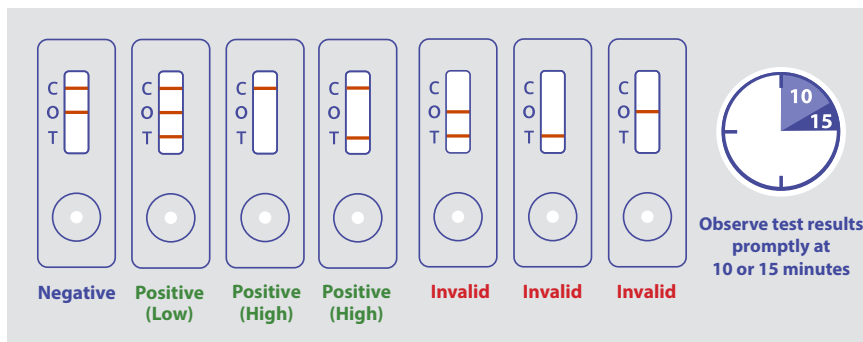

Figure 3. Interpreting Test Outcomes
**9.1.** A negative result is indicated by the development of a strong control line (C) and overload (O) line. An example of a negative result is depicted in **Figure 3** labeled **"Negative"**.
**9.2.** Positive test results at lower analyte concentrations will result in the appearance of the test line (T) in addition to the overload line (O) and/or the control line (C). At higher analyte concentrations, the test line (T) and/or the overload line (O) will disappear, leaving only the appearance of the control line (C). Thus at high analyte concentrations, the disappearance of the overload line (O) indicates that the sample is positive for the analyte regardless of the appearance of the test line (T). Examples of positive results are depicted in **Figure 3** labeled **"Positive"**.